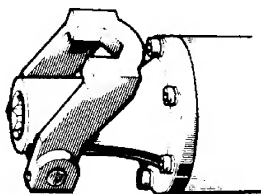

Fig. 2
(1) With the retainer directed backward, insert the tool shank into the hole on the front cover. (Fig. 2)